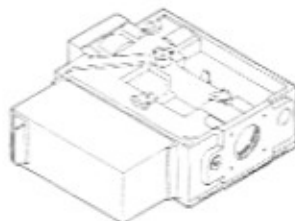

Figure 42
**Step 5. Electronic Appliances** — Remove ten (10) screws and remove the complete spud assembly.
**Step 6. Electronic Appliances** — Mark the wires to the gas valve. Then remove and replace the gas valve (Figure 42).